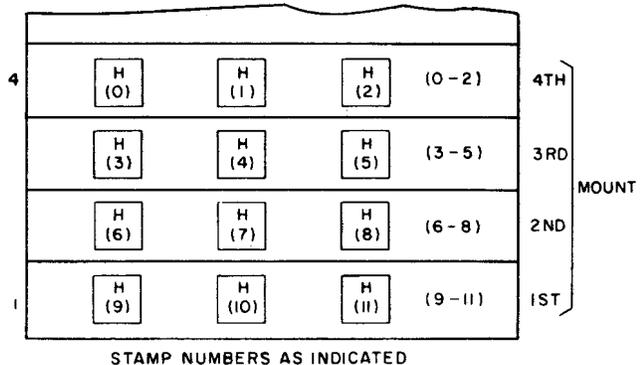

Fig. 7—Key Telephone Unit Designations
1 through 4 (Fig. 7). Local wiring is provided to extend necessary leads to telephone sets via connecting blocks in crown of cabinet.
7.21 Four strip-mounted J53035CH, List 1 (MD) (plug-in type) key telephone units (three line circuits per unit) may be mounted in slide 2 on mounting spaces 1 through 4 (Fig. 7). Local wiring is terminated in a plug at each mounting space location.
7.22 Stamp number designations on H relays and designation strips as shown in Fig. 7.